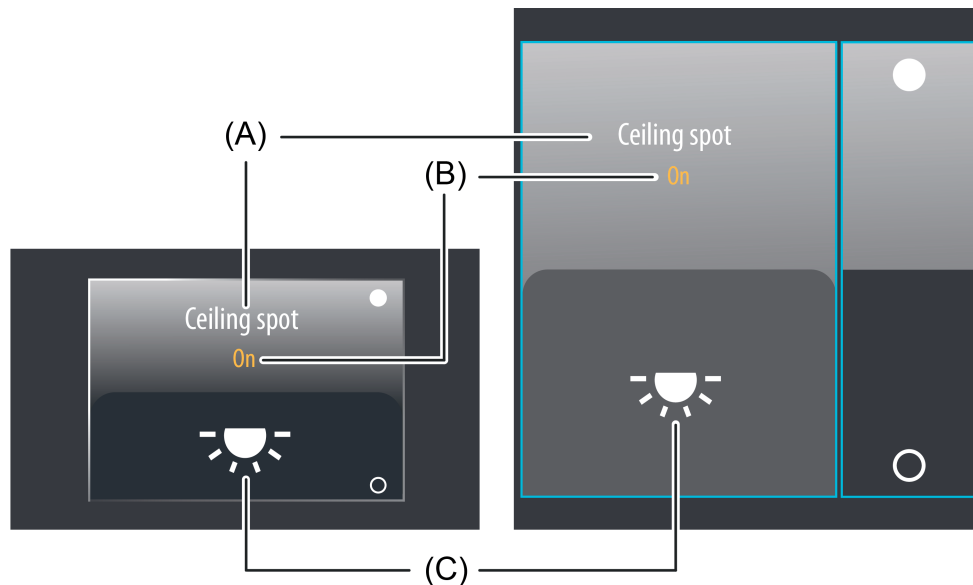

Figure 23: Example of an operating and display element of the function "Switching"
The display area contains different display elements (figure 23) that are influenced by parameters. A name can be assigned to each KNX function in the configuration software (A). This text name is centred in the display element for display whereby controllable KNX functions are identified for the user (e.g. "ceiling spot"). In addition, a status text (B) can be displayed below the name, which visualises different texts (e.g. "Off" / "On" or "Absent" / "Present") in the display depending on the object value of the switching status feedback ("0" / "1"). After a device reset, the display shows "---" until a feedback object value of the status text is received or predefined.